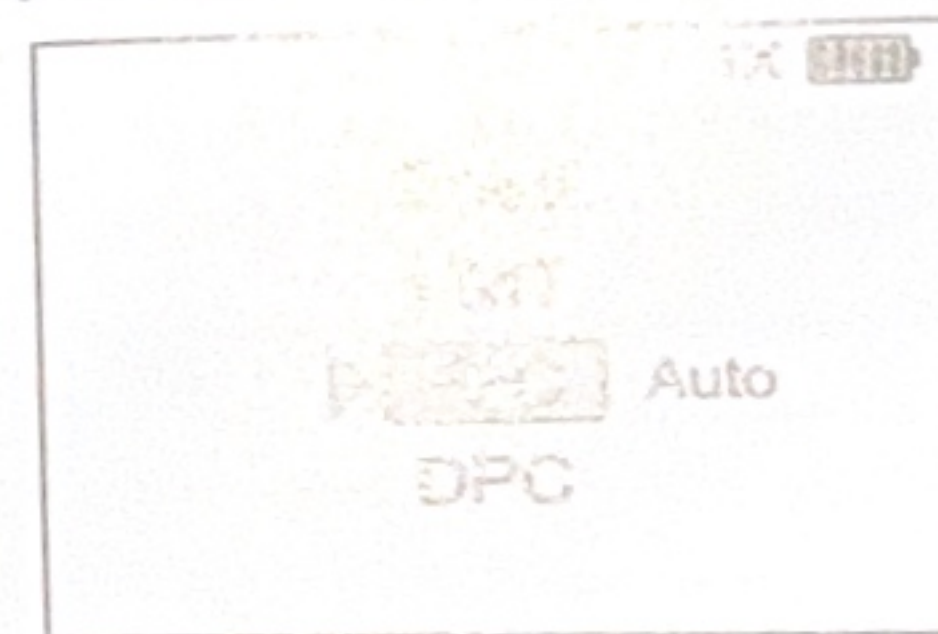

Fig 20
c. Flat Field Correction: From the Set menu, press the  $\nabla$  button to select FFC (Flat-Field Correction). Press the  $\square$  button to enter the FFC settings interface. Press the  $\triangle$  or  $\nabla$  buttons to select Auto or Man. To exit, press and hold the  $\square$  button to return to the previous menu. (See Figure 20)